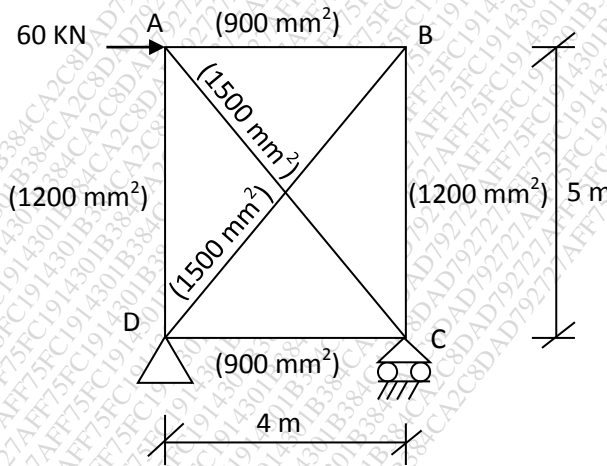

Fig. 1
- Q.2 Find forces in all the members of frame shown in fig 1. Cross sectional areas are given in brackets. 15